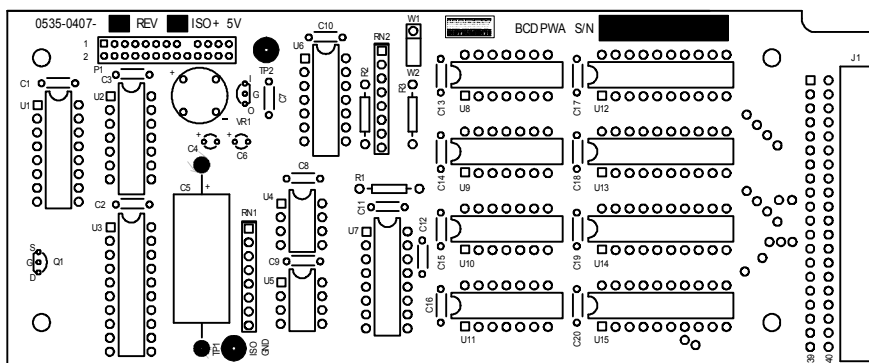

FIG. 3-11 PARALLEL BCD BOARD
1. The BCD option board. (See Fig. 3-11) is installed in the option slot and will provide parallel output of the sensed gross, net, or tare weight.